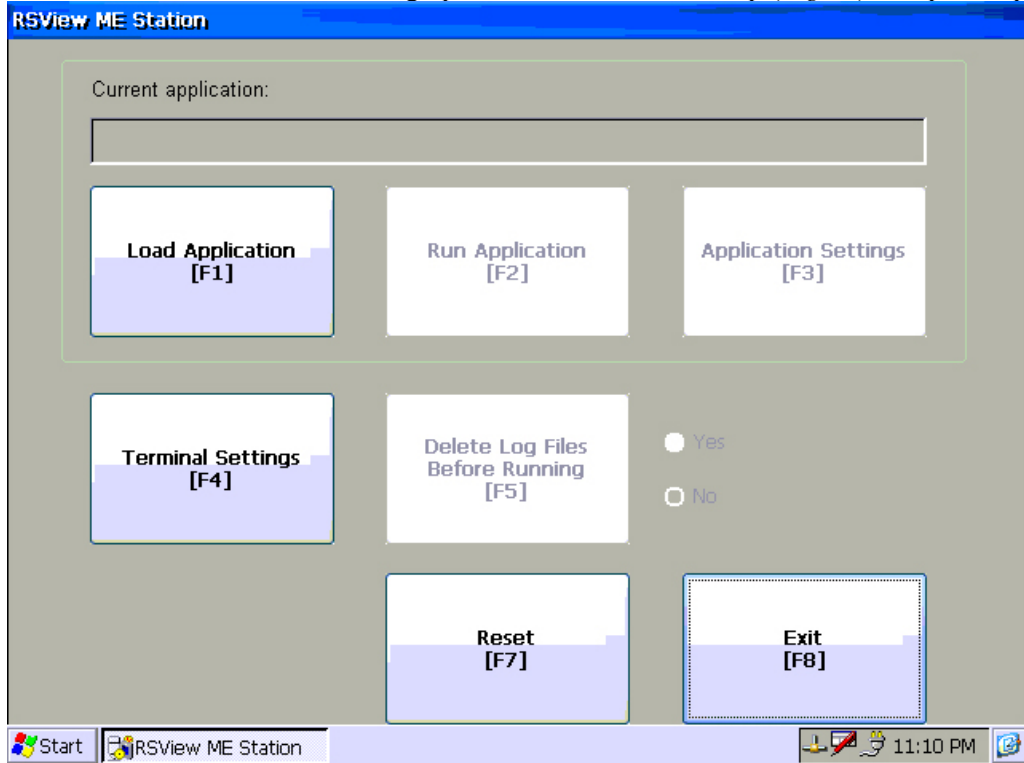

Fig 12
6. If the VersaView boots to the RSView ME Station screen with an “Exit [F8]” button (Fig 12), press the “Exit [F8]” button to bring up the Windows CE desktop (Fig 11). Skip to step 26.
24. The RSView ME Station Screen with an “**Exit [F8]**” button (*Fig 12*) will appear.
33. If the VersaView boots to the RSView ME Station screen (*Fig 12*), press the “**Exit [F8]**” button to bring up the Windows CE desktop (*Fig 11*).
5. The RSView ME Station Screen (Fig 12) will appear.
14. The RSView ME Station Screen will appear (*Fig 12*).